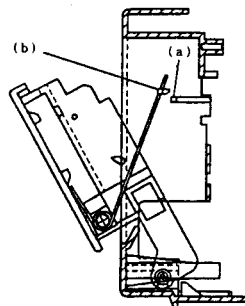
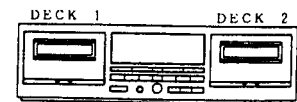

Fig. 6-2
Fig. 6-3
1. Attach the door spring at position (b) according to fig. 6-2. and stand the front panel assembly straight up as shown in fig. 6-3.